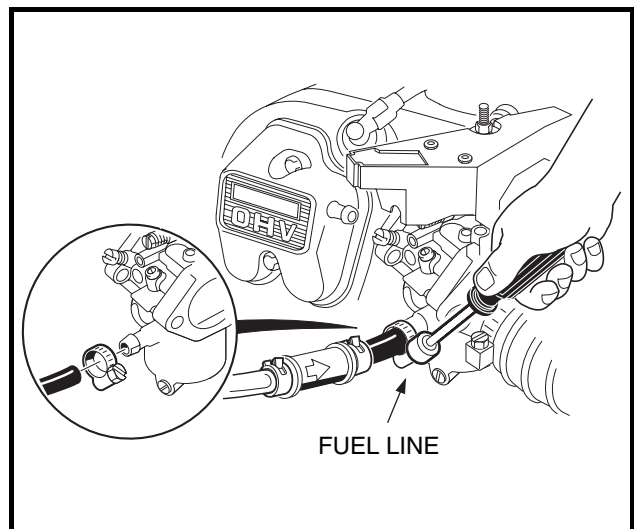

Figure 18-12 Fuel Line
- 4.4. Loosen the hose clamp and then disconnect the fuel line from the carburetor. To prevent spilling fuel, the disconnected end of the line can be plugged with a 1/4-inch bolt (**Figure 18-12, Page 18-7**).